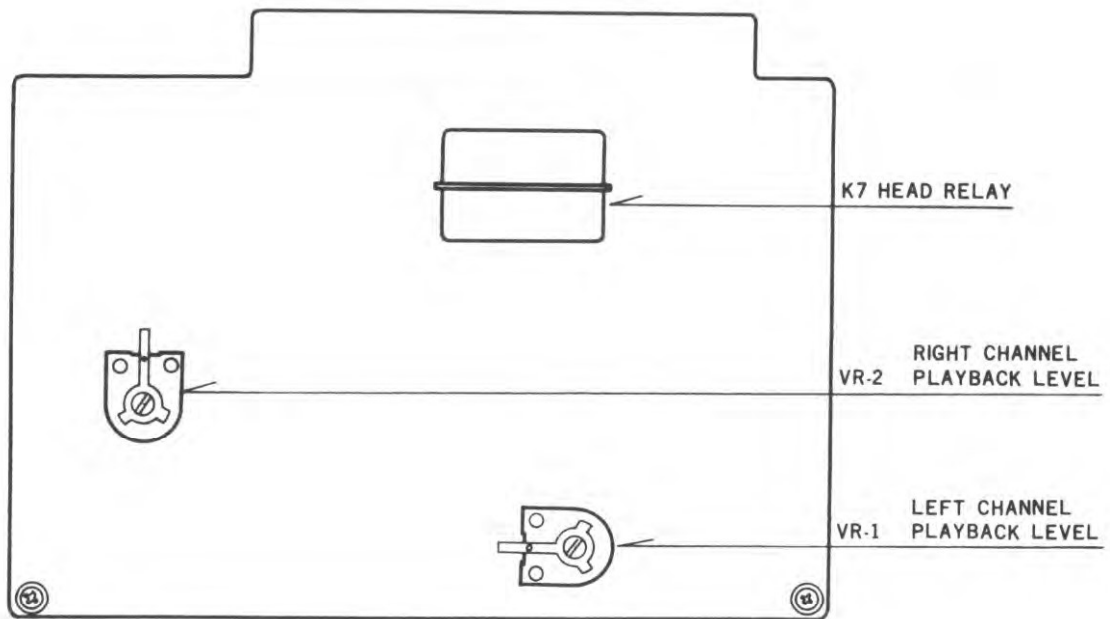

FIG.13 A-4000S PLAYBACK AMPLIFIER PRINTED BOARD ADJUSTABLE PARTS LOCATION (TOP VIEW)
11. Adjust the playback level controls on the printed circuit board, VR-1 left channel and VR-2 right (Figure 13) channel, to obtain a +4dB reading on the VTVM.